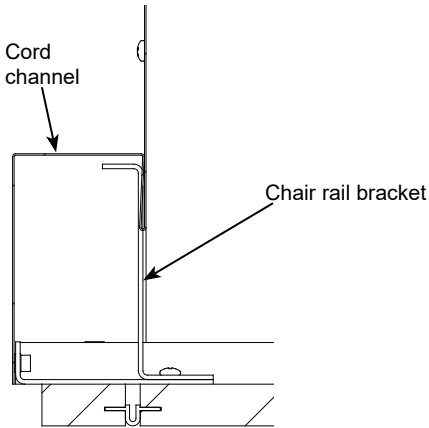

Figure 3.2
*Note: If you are assembling a 60, or 72" desk, slide the cord channel over the chair rail bracket. The bracket will support the inside of the cord channel. **Figure 3.2.***
2. Install the (4) glides to the bottom of the legs. The glides can be adjusted later to keep the desk level on uneven surfaces.